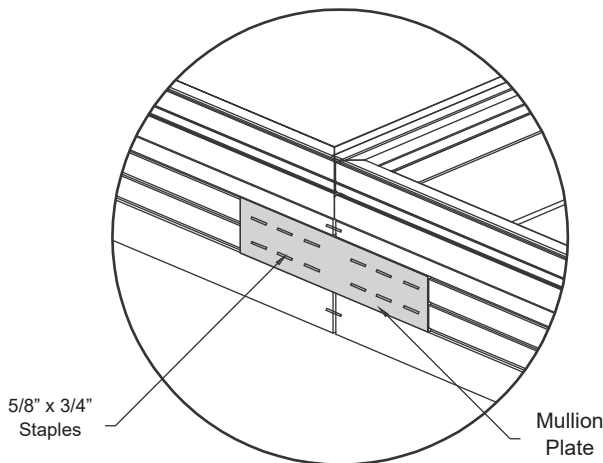

Fig. 5
- For windows, attach the mullion reinforcement plate across the mull at the head jamb and sill using twelve 5/8" x 3/4" staples on each mull plate (6 on each side of the mull joint). For patio doors, attach the mullion reinforcement plate on the head jamb only. See Figure 5.